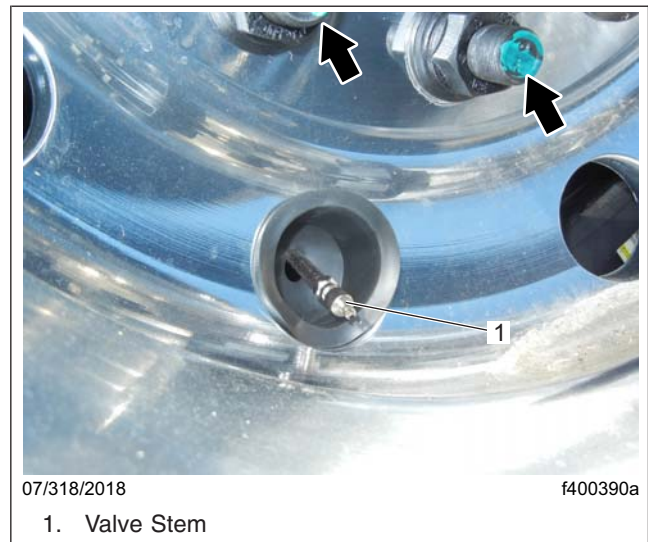

Fig. 12, Marking Wheel Studs
5. Mark the two studs closest to the valve stem as shown in Fig. 12, for proper wheel assembly location when reinstalling the wheel assembly on the hub.